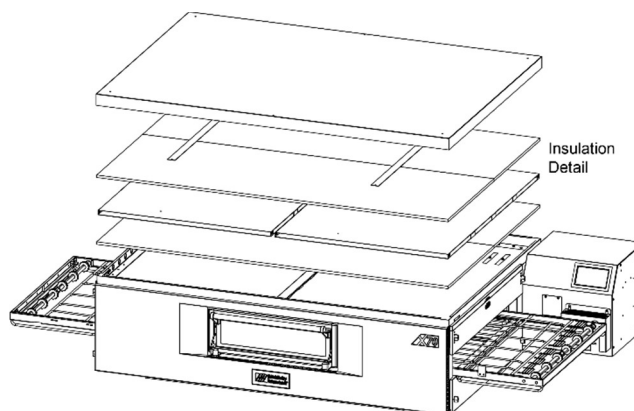
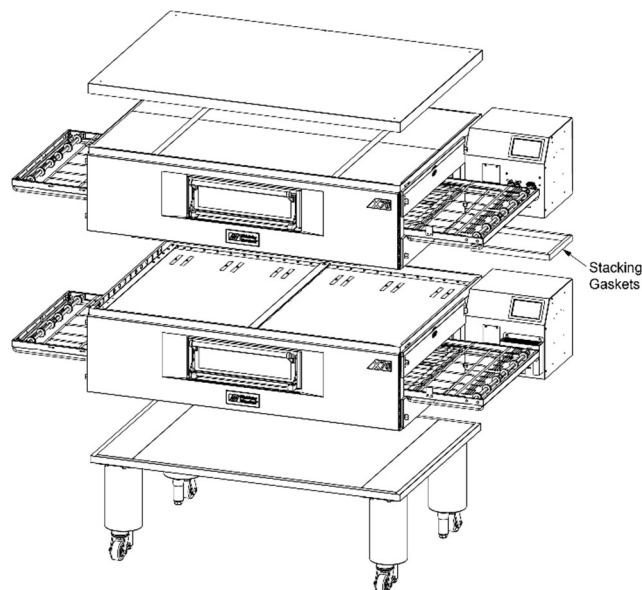

Figure 18. Top Panel Installation
Figure 19. Stacking Order
Install the top panels using the screws included in the base pad kit, as shown in Figure 18. Then, skip ahead to Part C, Restraint Cable Installation.
See Figure 19.
3. Install the top panel using the screws included in the kit, as shown in Figure 18 and Figure 19.